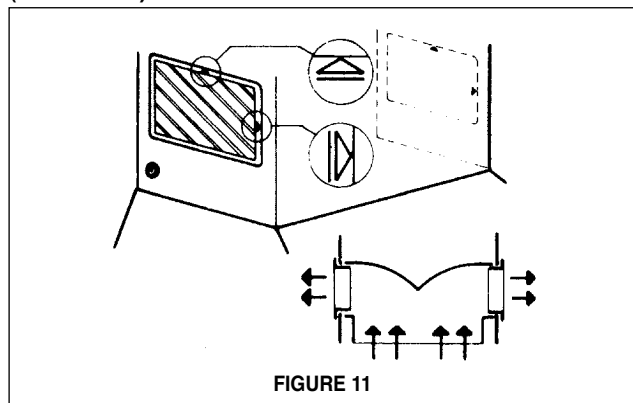

FIGURE 11
Once the LOWER CHIMNEY DUCTLESS with holes is installed, the VENT GRIDS (B) are inserted into the holes (FIGURE 11).